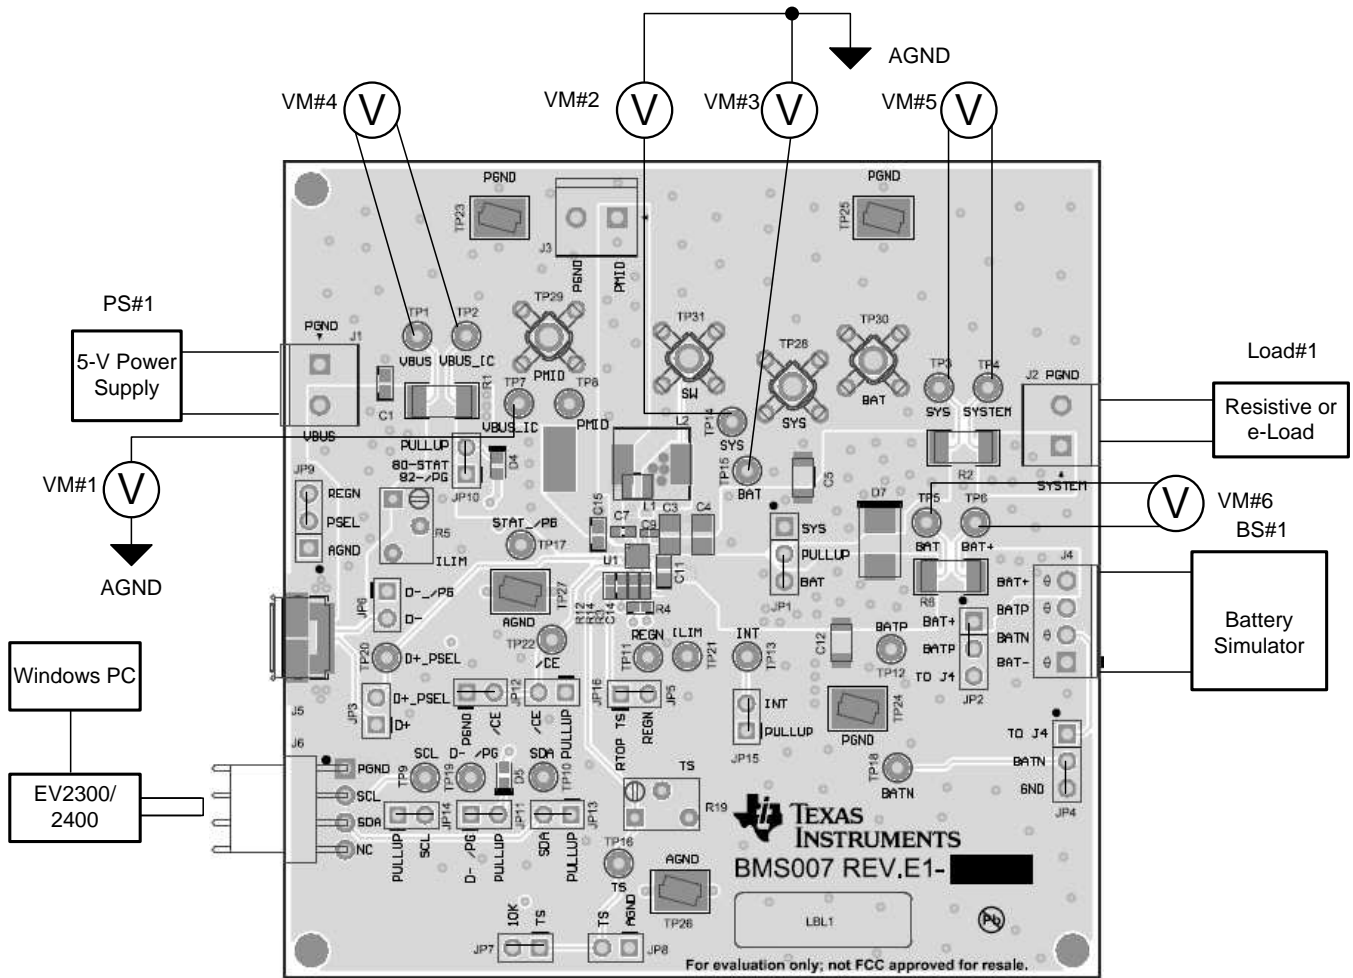

Figure 1. bq25880 Charge Mode Test Setup
1. Figure 1 shows the test setup for bq25882 and Figure 2 shows the test setup for bq25880 when in charge (boosting) mode including jumper settings per Table 2. Ensure that the power supply and battery simulator are turned off before connecting to the EVM.